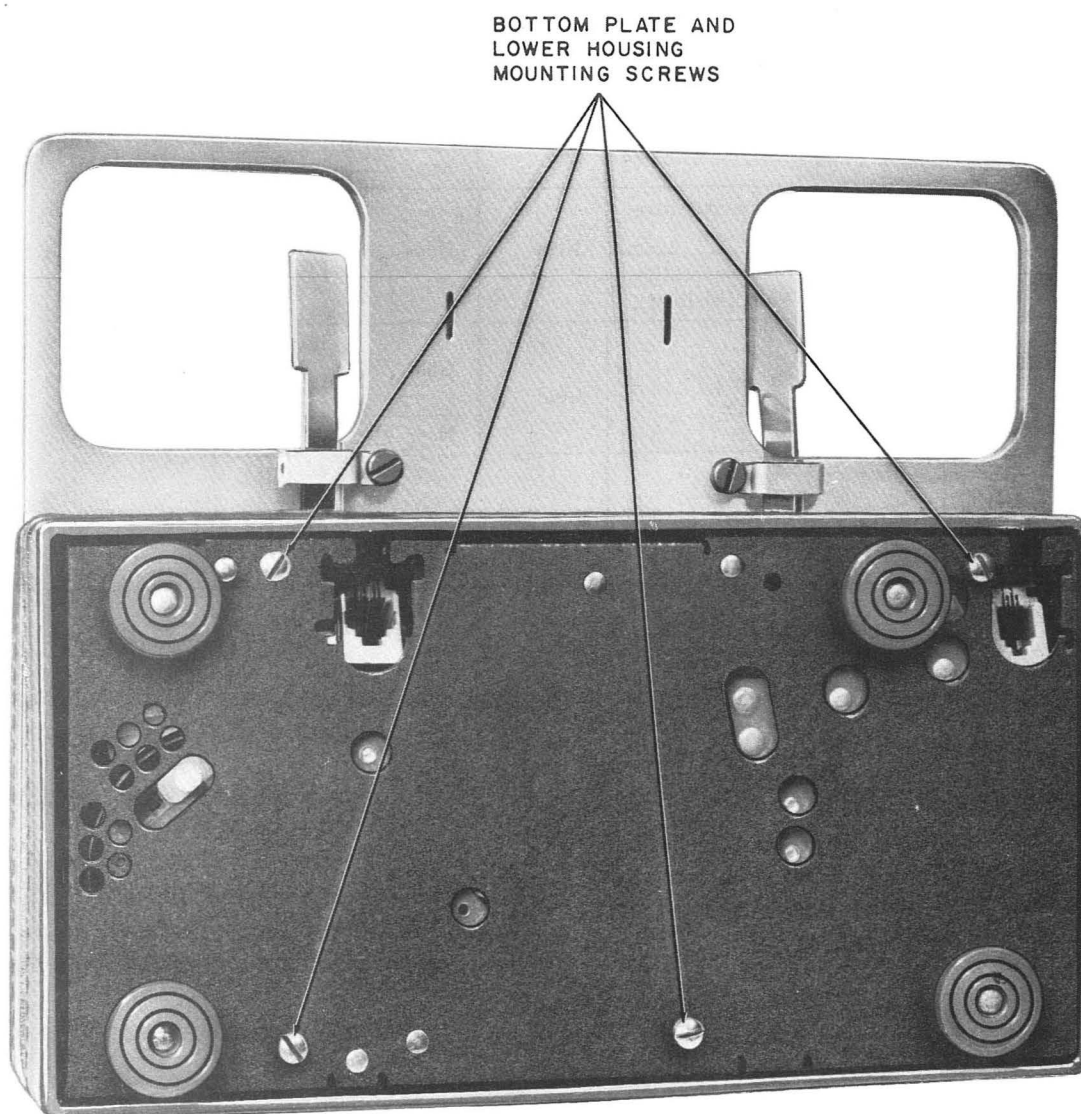

Fig. 4—930A- (MD) or 2930A-Type (MD) Telephone Set, Bottom View
- (1) Remove handset and mounting cords from the bottom of the telephone set.
- (2) Remove the four bottom plate and lower housing mounting screws (Fig. 4).
- (9) Reassemble lower housing and bottom plate to handset mounting plate (Fig. 4).